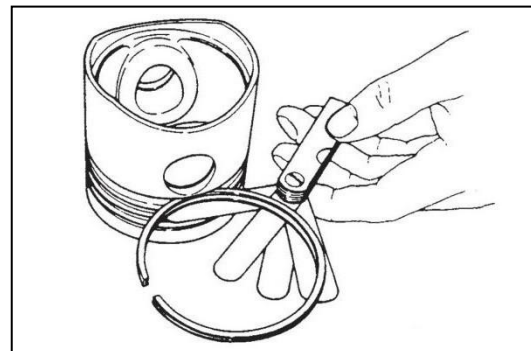

Figure 118
8. Place each compression piston ring in the groove as shown (Figure 118). Use